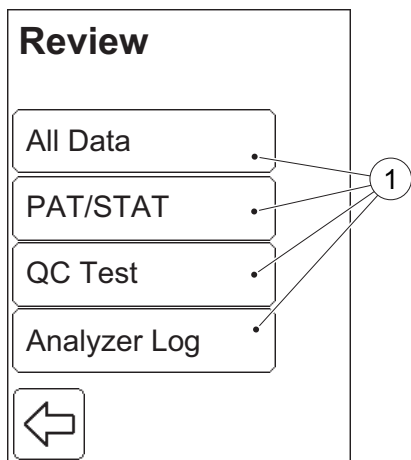

FIGURE 7-5
Press the All Data button in the Review menu, *FIGURE 7-5*.
Press the PAT/STAT button in the Review menu, *FIGURE 7-5*.
- a) To browse through the available records, use the scroll bar arrows (4).
- b) Depending on the operator's user level, comments can either be added, deleted or changed or just viewed, by pressing the Comment input button (8). See 4.1.3 *Entering Comments*.
- c) Press the Confirm button (9). FIGURE 7-5 will be displayed.
Press the QC Test button in the Review menu, *FIGURE 7-5*.